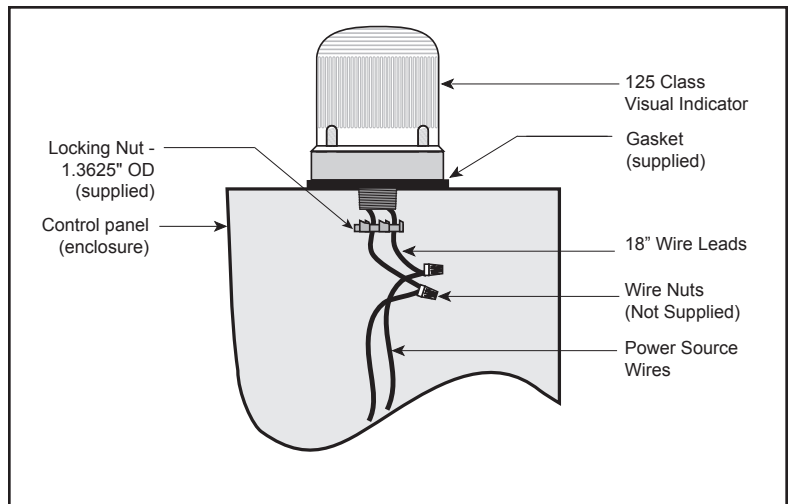

Figure 2. Panel Mounting
Panel Mounting (Figure 2)
3. Using wire nuts (not supplied), connect the signal's wire leads as shown in Figure 2. Polarity must be observed.
1. **Panel Mounted Modules:** Disconnect wiring and remove locking nut that secures the base to the panel (Figure 2).